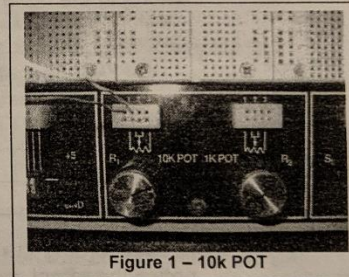

Figure 1 – 10k POT
1. Strip the ends of two small gauge wires and insert them into terminals 1 and 2 of the 10K POT as shown in **Figure 1**. Set the potentiometer knob to the middle of its travel.